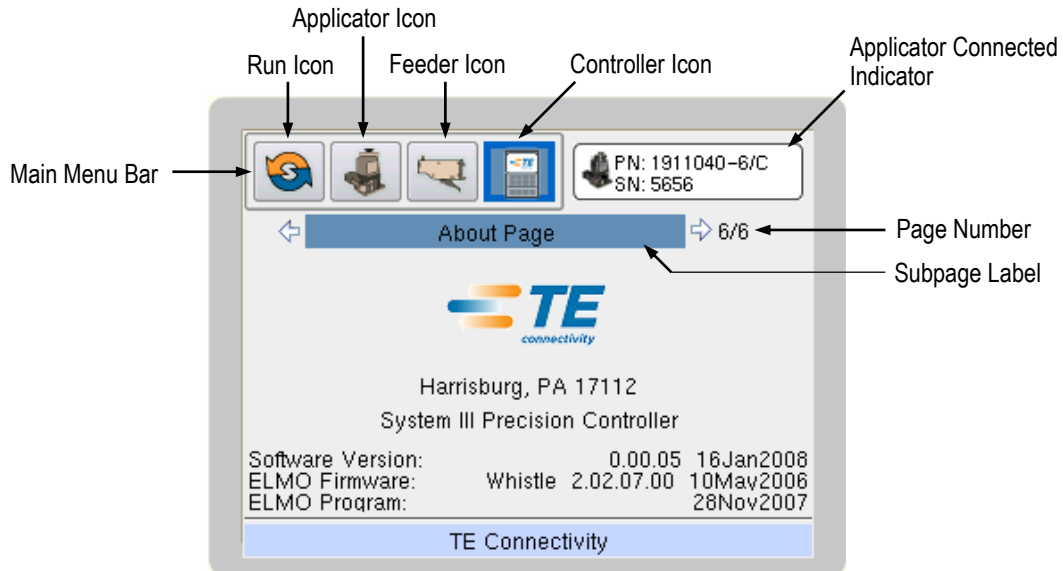

Figure 32
Each screen contains four icons across the top of the screen in a main menu bar, which include a Run icon, Applicator icon, Feeder icon, and Controller icon. See Figure 32.
**i NOTE** It will first be necessary to navigate down to the subpage label using the Up and Down navigation keys and then switch to the Left and Right navigation keys. Some pages do not have subpages. For example, Figure 32 shows that there are 5 subpages (6/6) to this particular screen.